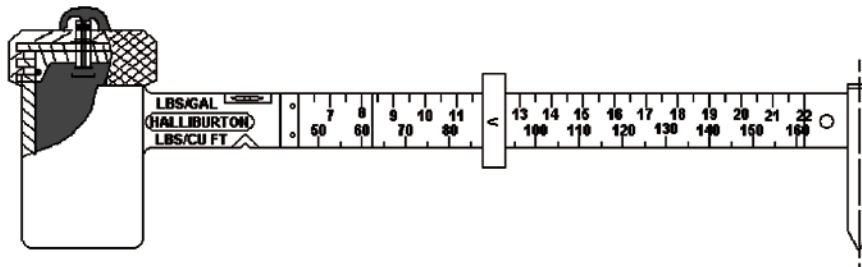

Figure 4-2 A properly filled sample cup
- As previously mentioned, some fluid should flow out the check valve (Figure 4-2). If fluid does not flow out, remove the lid and pour more fluid into the cup.